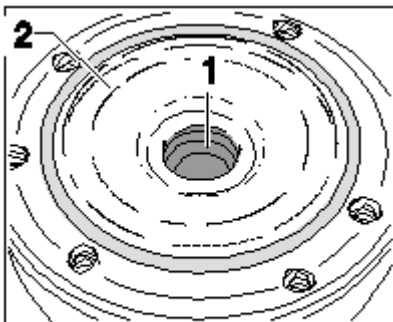

Fig. 26: Rubber stop
7. When replacing the air spring, push the rubber stop -1- out of the centring device. See **Fig. 26**.